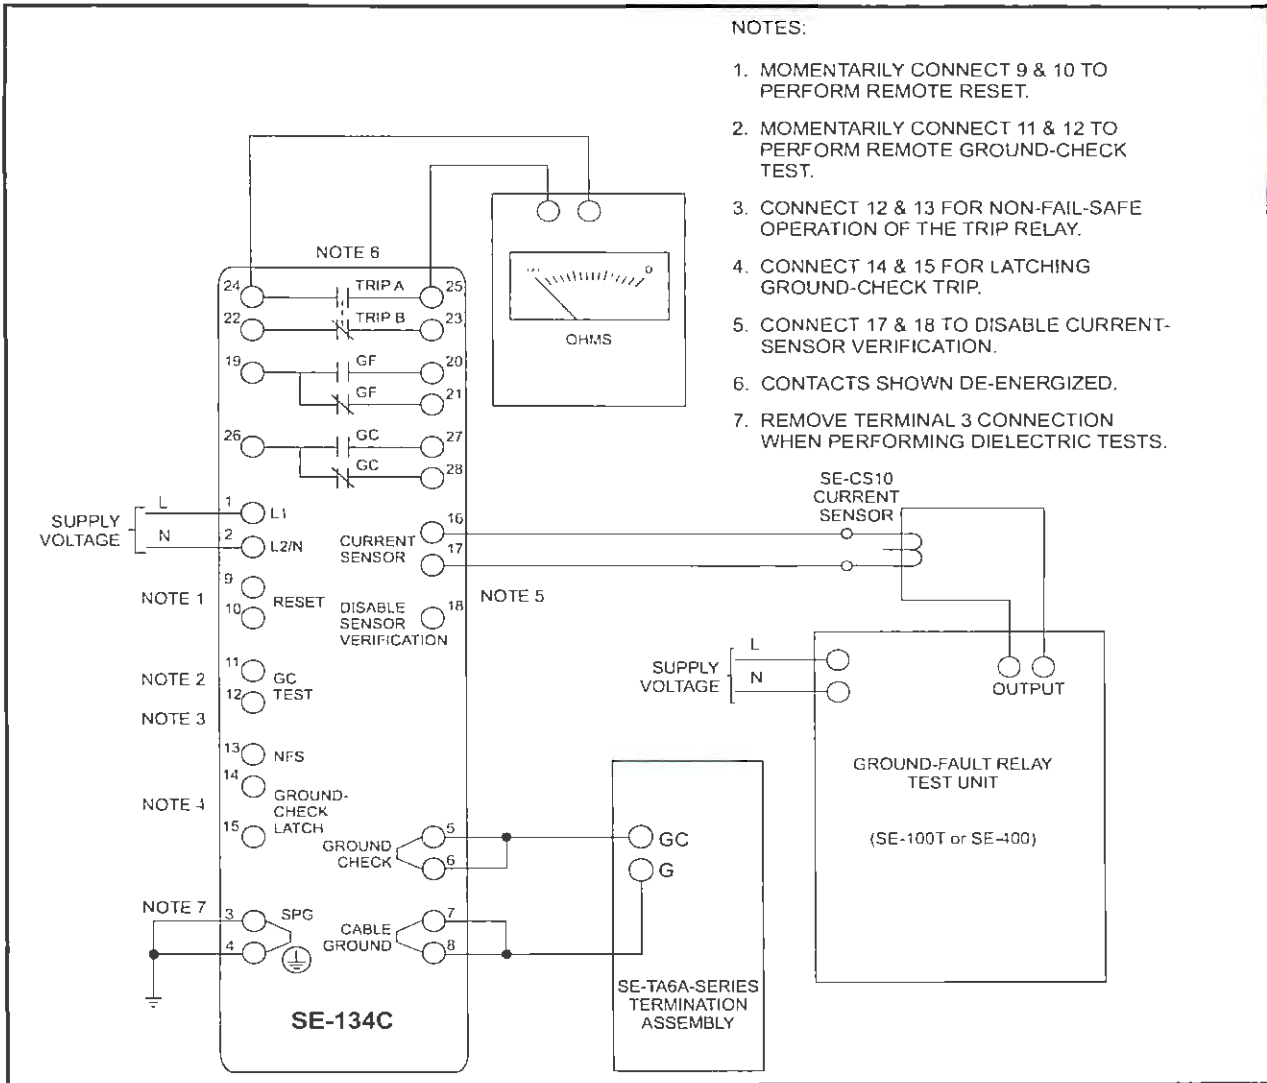

FIGURE 10. Ground-Fault-Test Circuit.
- Connect the monitor, current sensor and termination assembly as shown in Fig 10. Connect terminals 14 and 15 for latching operation. With supply voltage applied, the POWER, SENSOR, and VALID LED's will be on.
- Connect the monitor, current sensor and termination device as shown in Fig. 10. With supply voltage applied, the POWER, SENSOR, and VALID LED's will be on.
- Connect the monitor, current sensor and termination device as shown in Fig. 10. With supply voltage applied, the POWER, SENSOR, and VALID LED's will be on. The output contacts between terminals 22 and 23 will be open and between 24 and 25 will be closed.